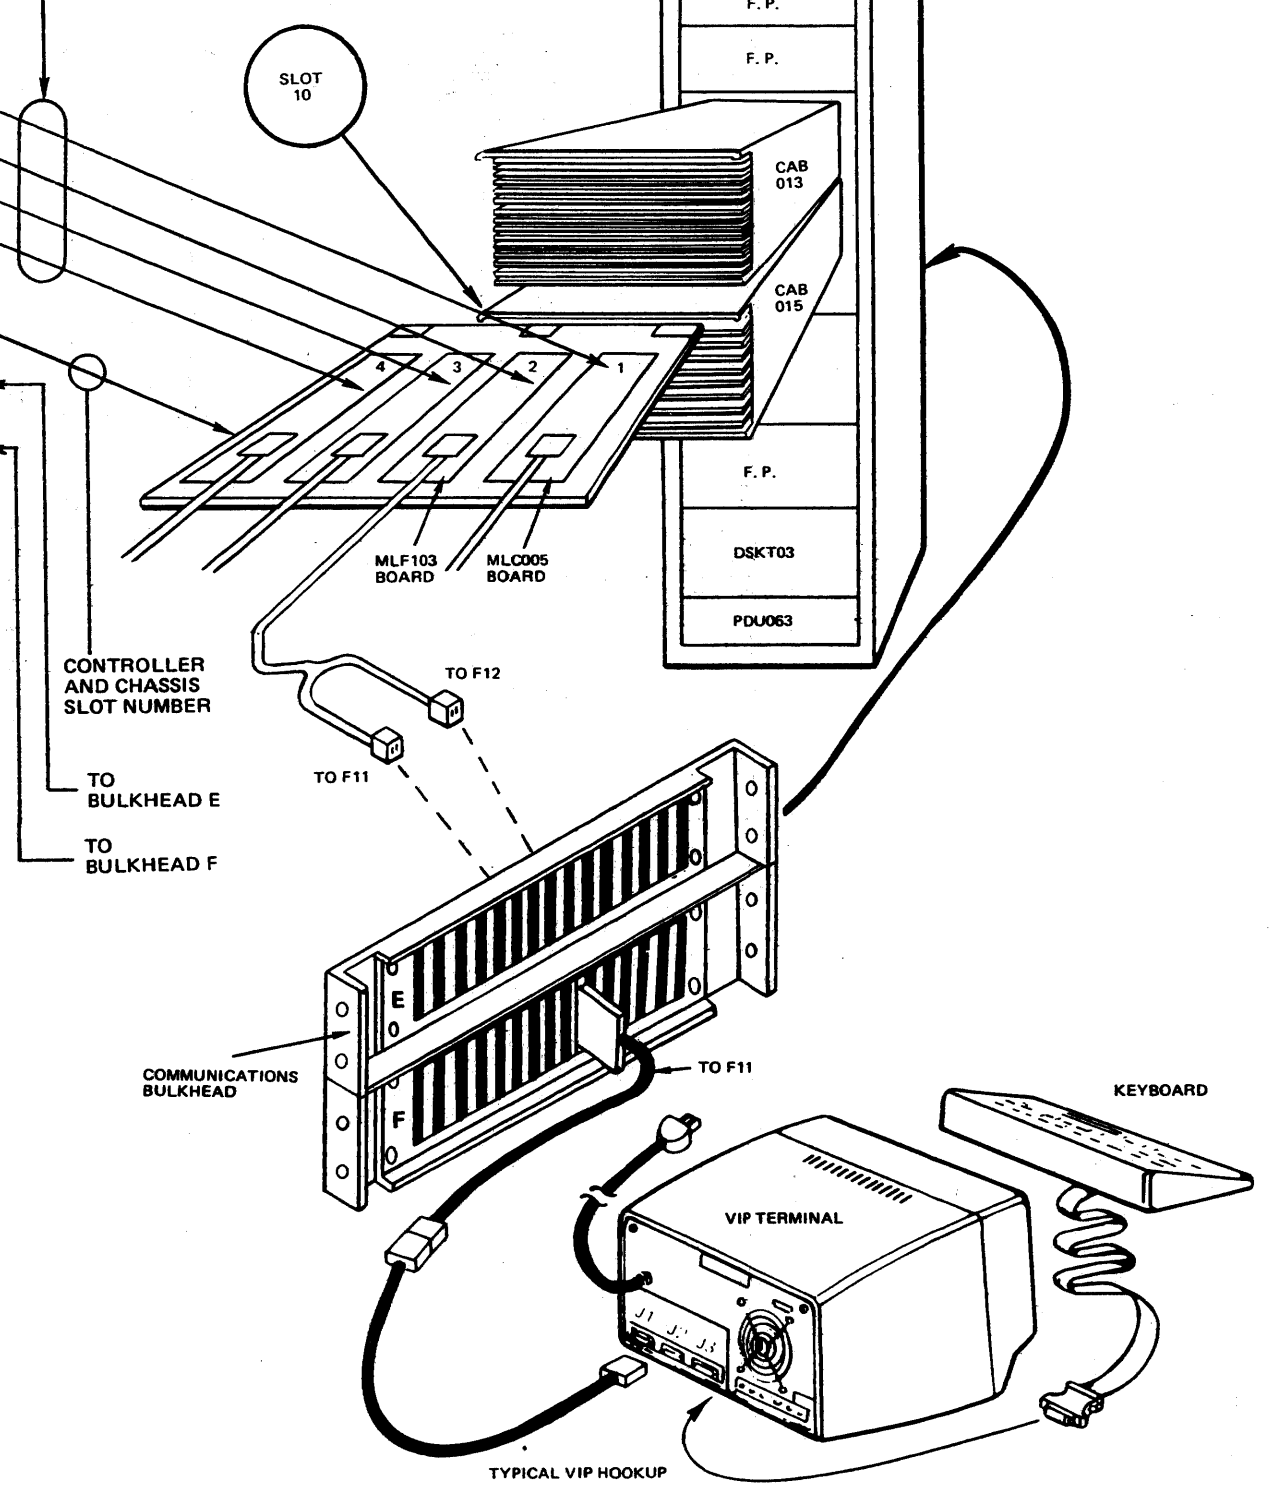

Figure 3-1.1 Using the Computer Configuration Sheet
The size of the system configuration determines the number of sheets that make up the CCS. Figure 3-1.1 provides an example of how to use the CCS.
- a. Refer to the bulkhead locator card on the CSS (see Figure 3-1.1) and connect the connectors as shown. The locator card will be filled out prior to shipment of the system to indicate the location of subchannels 0 through 95. The number of the bulkhead location will be entered on the card in the appropriate location. An X marked on the card indicates that the communications cable used for that particular subchannel is not connected to the bulkhead; it connects directly from the CLA on the CIB. A # marked on the card denotes an unused channel.